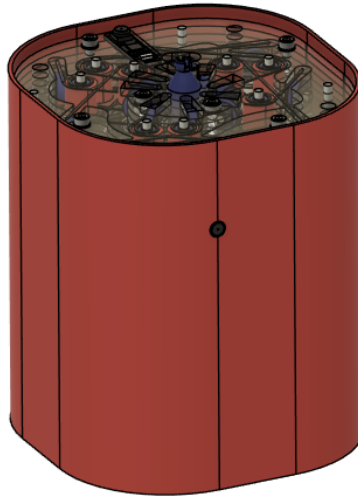

Figure 5: The fully assembled flower pot.
9. Slide the flower pot assembly into the outer shell. Ensure both pinhole camera cables exit through the power hole on the back of the outer shell and that the shell is oriented correctly. This completes the flower pot assembly; see Figure 5.